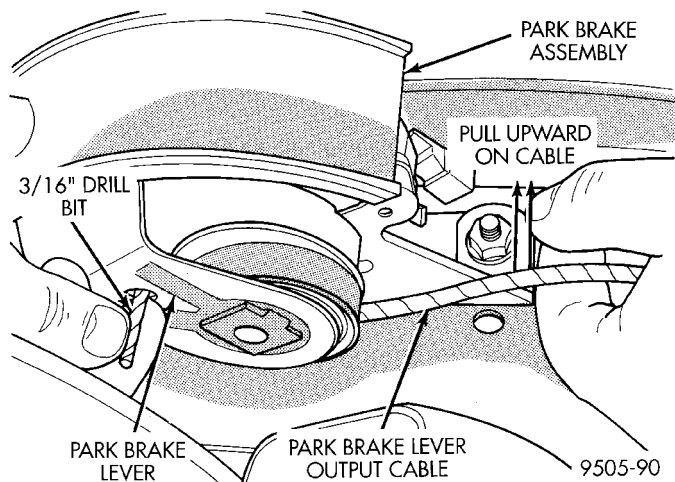

Fig. 46 Locking Pin Installed In Park Brake Mechanism
(6) Grasp park brake lever output cable by hand and pull upward (Fig. 46). Continue pulling on cable until a 3/16 in. drill bit can be inserted into handle and sector gear of park brake mechanism (Fig. 46). This will lock the park brake mechanism and take tension off park brake cables.